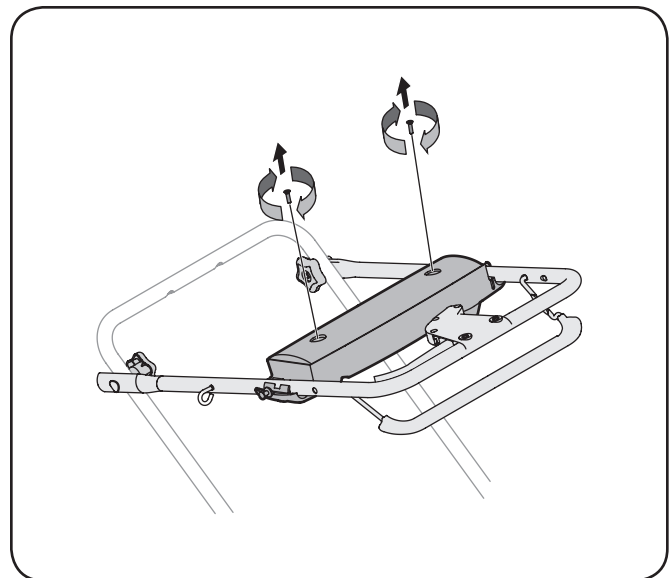

Figure 7-4
1. Loosen star knobs securing upper and lower handles and carefully fold the upper handle down toward the lower handle as shown in Fig. 7-4.
2. Remove the two screws securing battery cover to battery housing and place them to the side. See Fig. 7-4.
1. Open the battery cover as described in Replacing Battery. See Fig. 7-4.